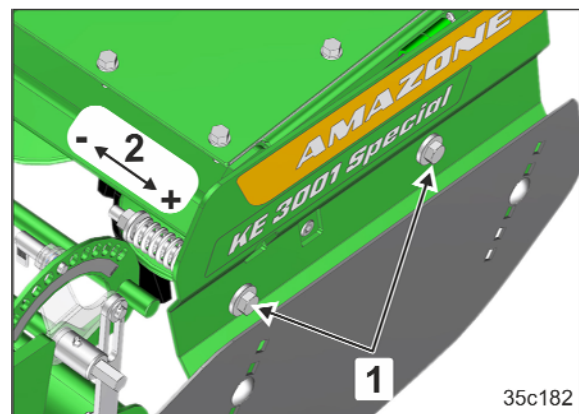

Fig. 111
By turning the two lock nuts (Fig. 111/2), the tension of the spring is
- increased on heavy soils (Fig. 111/2+),
- reduced for incorporating straw (Fig. 111/2-).